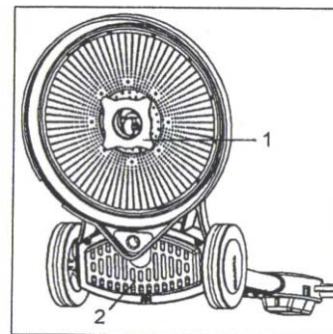

Fig 2
- Press cleaning pad onto drive disc, refit pad lock and tighten (Fig 2).
- With the handle set at a convenient working height and with both left and right hands on the handle, depress both interlock buttons with the thumbs and squeeze both switch triggers to start the machine (Fig 2).